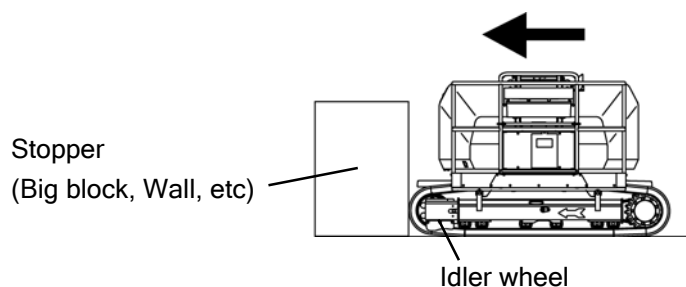

Fig. 6-1
- 1) Rotate the boom 90 degrees to C.W. or C.C.W. direction, and then set the machine so that the track shoes on the front (Idler wheel side) touch to the stopper as shown in Fig. 6-1.